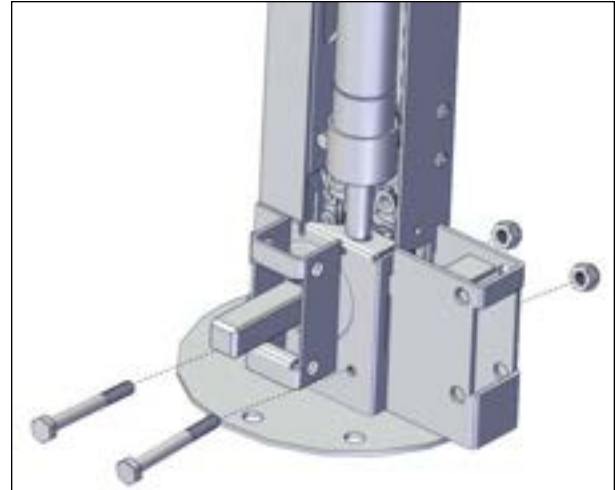

FIGURE 51: SCREW INSTALLATION
- Install two 1/4" x 2 1/4" hexagonal head screws and nylon-insert lock nuts. Use the appropriate socket wrench spanner to fasten the foot in place see Figure 51.
Make sure you respect the orientation of the fasteners, as shown in Figure 51.